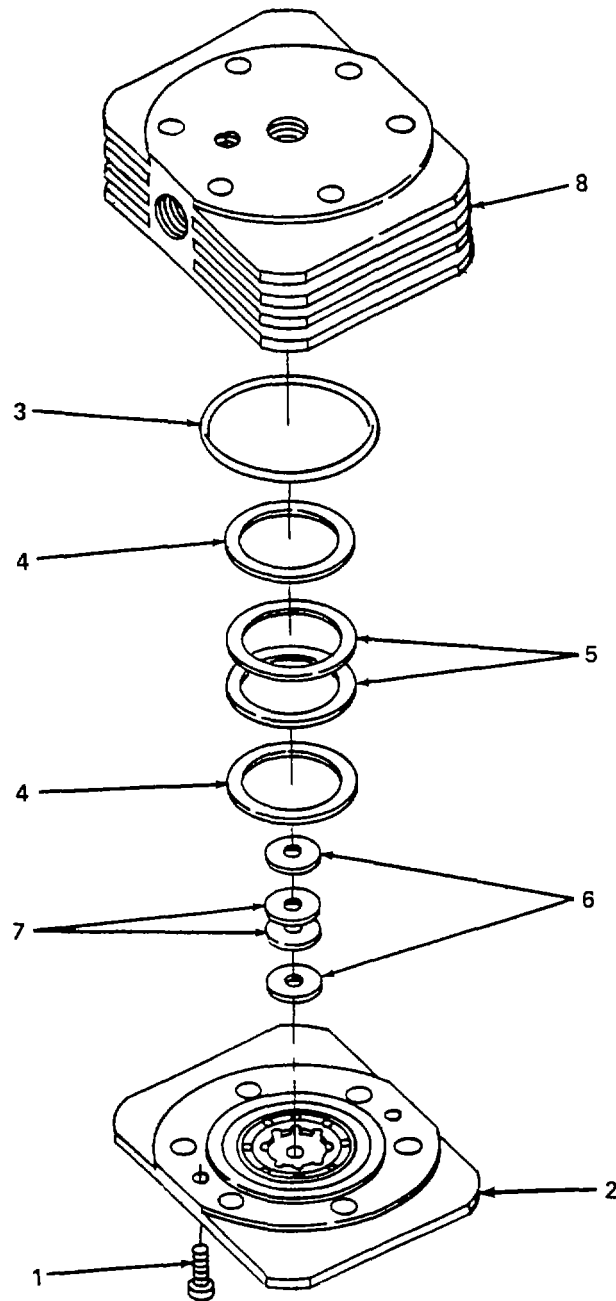

Figure 5-32. Second Stage Valve Head Assembly, Repair.
- (6) Apply teflon tape to pipe threads on two elbows (9) and install two elbows (9).
- (7) Ensure all seating surfaces are clean.
- (8) Install new preformed packing (8) and second stage valve assembly (7), and secure with six bolts (5) and washers (6). Torque bolts (5) to 8 lb-ft (11 Nm).
- (9) Connect line (10) and tighten connector nut (2).
- (10) Connect line (11) and tighten connector nut (1).
b. Repair. (figure 5-32)
- (1) Remove second stage valve assembly (para. a.).
- (2) Remove two retaining screws (1), lower plate (2), preformed packing (3), two valve plates (4), spring rings (5), valve plates (6), and spring rings (7). Discard preformed packing (3).
- (3) Clean all items with TSP ultrasonic cleaner and dry all parts thoroughly.
- (4) Inspect lower plate (2) and head (8) and replace if cracked, scored, or otherwise damaged.
- (5) Inspect valve plates (4) and (6) and replace if scored, bent, or cracked.
- (6) Inspect spring rings (5) and (7) and replace if cracked, bent or scored.
- (7) Install two spring rings (7), valve plates (6), spring rings (5), and valve plates (4) in head (8). Ensure concave plates and ring oppose one another.